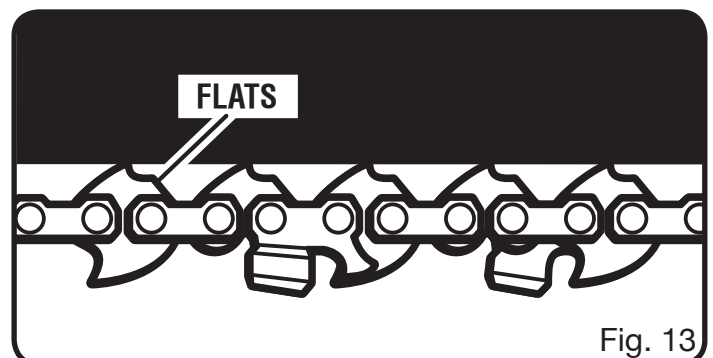

Fig. 13
See Figures 13 - 14.
- Chain must be re-tensioned whenever the flats on the drive links hang out of the bar groove as shown in fig. 13.